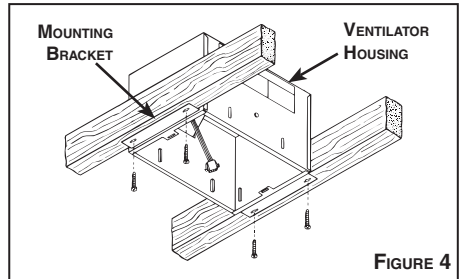

FIGURE 4
2. Refer to Figure 4. Screw housing to joists using holes in mounting brackets and four screws (included).